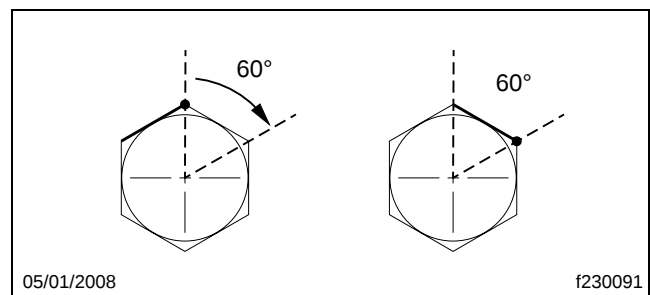

Fig. 10, Turning the Fitting One Flat (60 degrees)
48. Attach the lines to the plumbing adaptors on the steering gear, while ensuring that the lines will not touch the axle or each other once installed. Snug the connection with a wrench to ensure the fittings are seated, which is equivalent to approximately 2 lbf·ft (3 N·m). Then, using a backup wrench to keep the adaptors from turning, tighten the return and supply hoses by 1 flat of the tube nut (60 degrees). See **Fig. 10**.